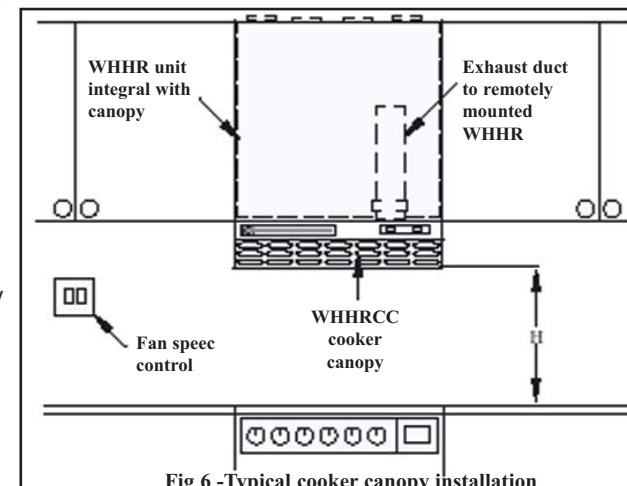

Fig 6 -Typical cooker canopy installation
2.9.1 Referring to Paragraph 2.4.1 and Fig. 6, determine the height (H) of the cooker canopy from the cooker top. Mark the base datum line for the Heat Recovery unit at $H + 150$ mm.